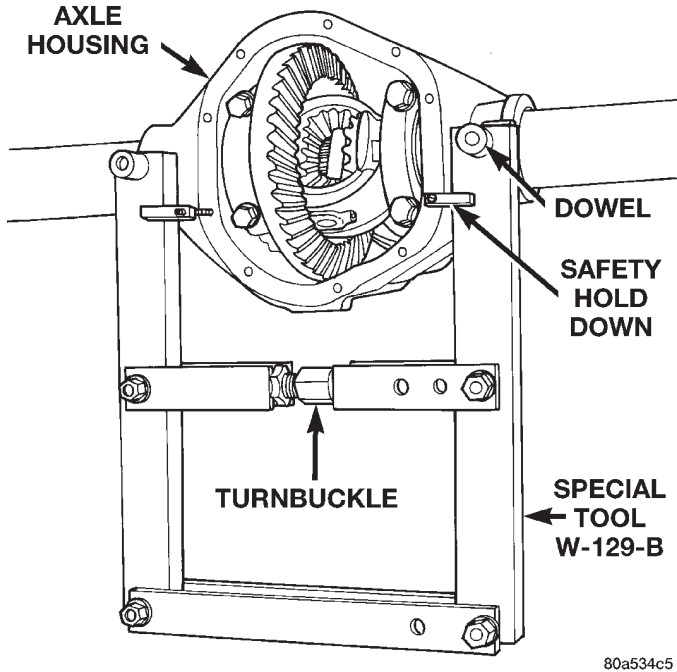

Fig. 28 Install Axle Housing Spreader
(1) Position Spreader W-129-B, utilizing some items from Adapter Kit 6987, with the tool dowel pins seated in the locating holes (Fig. 28). Install the hold-down clamps and tighten the tool turnbuckle finger-tight.